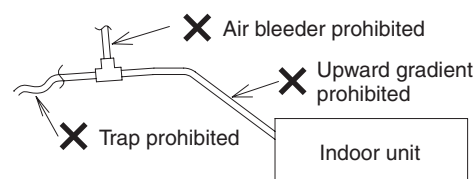

Fig. 2-35
- Do not install the drain pipe with an upward gradient from the drain port connection. This will cause the drain water to flow backward and leak when the unit is not operating. (Fig. 2-35)
- Do not install an air bleeder as this may cause water to spray from the drain pipe outlet. (Fig. 2-35)
- Do not provide U-trap or bell-shaped trap in the middle of the drain pipe. Doing so will cause abnormal sound. (Fig. 2-35)